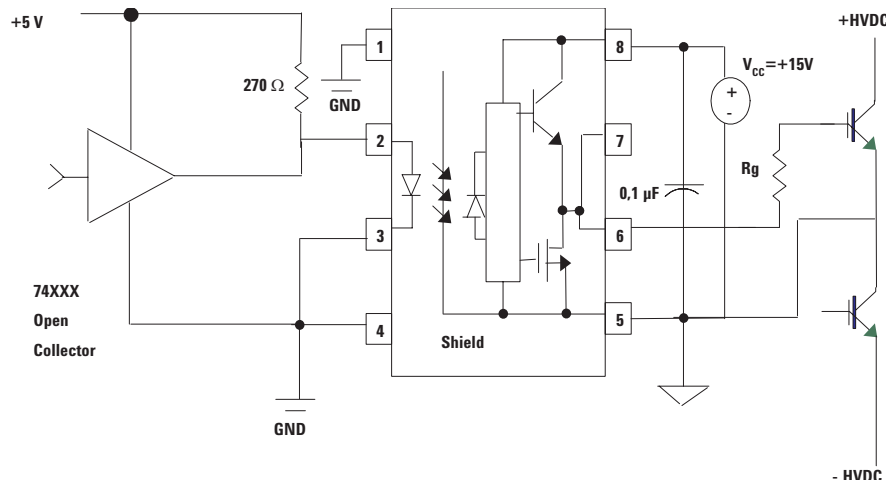
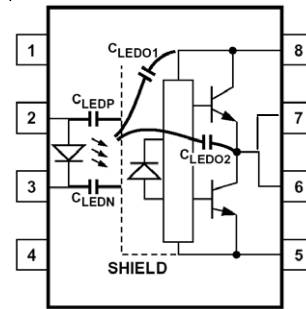
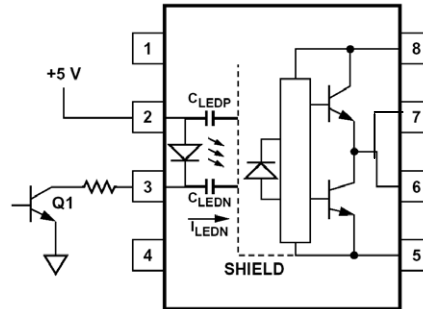
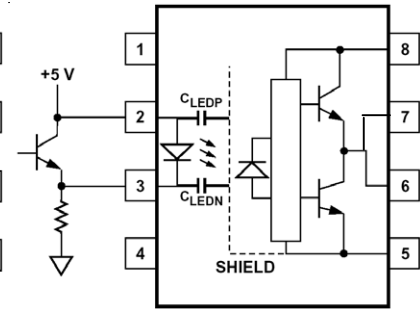

Figure 25. Recommended LED Drive and Application Circuit for HCPL-3180
Figure 30. Optocoupler Input to Output Capacitance Model for Shielded Optocouplers.
Figure 32. Not Recommended Open Collector Drive Circuit.
Figure 33. Recommended LED Drive Circuit for Ultra-High CMR
To keep the IGBT firmly off, the HCPL-3180 has a very low maximum V_{OL} specification of 0.4 V. The HCPL-3180 realizes the very low V_{OL} by using a DMOS transistor with 1 W (typical) on resistance in its pull down circuit. When the HCPL-3180 is in the low state, the IGBT gate is shorted to the emitter by $R_g + 1\text{ W}$. Minimizing R_g and the lead inductance from the HCPL-3180 to the IGBT gate and emitter (possibly by mounting HCPL-3180 on a small PC board directly above the IGBT) can eliminate the need for negative IGBT gate drive in many applications as shown in Figure 25. Care should be taken with such a PC board design to avoid routing the IGBT collector or emitter traces close to the HCPL-3180 input as this can result in unwanted coupling of transient signals into the input of HCPL-3180 and degrade performance.
Step 1: Calculate R_g minimum from the I_{OL} peak specification. The IGBT and R_g in Figure 25 can be analyzed as a simple RC circuit with a voltage supplied by the HCPL-3180.
For the circuit in Figure 25 with the circuit in with I_F (worst
performance by using a detector IC with an optically transparent Faraday shield, which diverts the capacitively coupled current away from the sensitive IC circuitry. However, this shield does not eliminate the capacitive coupling between the LED and optocoupler pins 5-8 as shown in Figure 30. This capacitive coupling causes perturbations in the LED current during common mode transients and becomes the major source of CMR failures for a shielded optocoupler. The main design objective of a high CMR LED drive circuit becomes keeping the LED in the proper state (on or off) during common mode transients. For example, the recommended application circuit (Figure 25), can achieve 10 kV/us CMR while minimizing component complexity.
The open collector drive circuit, shown in Figure 32, cannot keep the LED off during a $+dV_{CM}/dt$ transient, since all the current flowing through C_{LEDN} must be supplied by the LED, and it is not recommended for applications requiring ultra high CMR_L performance. Figure 33 is an alternative drive circuit, which like the recommended application circuit (Figure 25), does achieve ultra high CMR performance by shunting the LED in the off state.